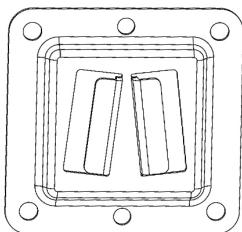

Figure 3
1. Hold the wall plate (Figure 3) to the wall, use the four corner mounting holes to mark the locations to be used for mounting the wall plate. Locate the holes directly into the brick, block or concrete, never into the mortar between the blocks.
2. Pre-drill four holes to a depth of 2" using a 3/8" masonry drill bit at the positions you've marked and insert one concrete anchor (B) into each hole.